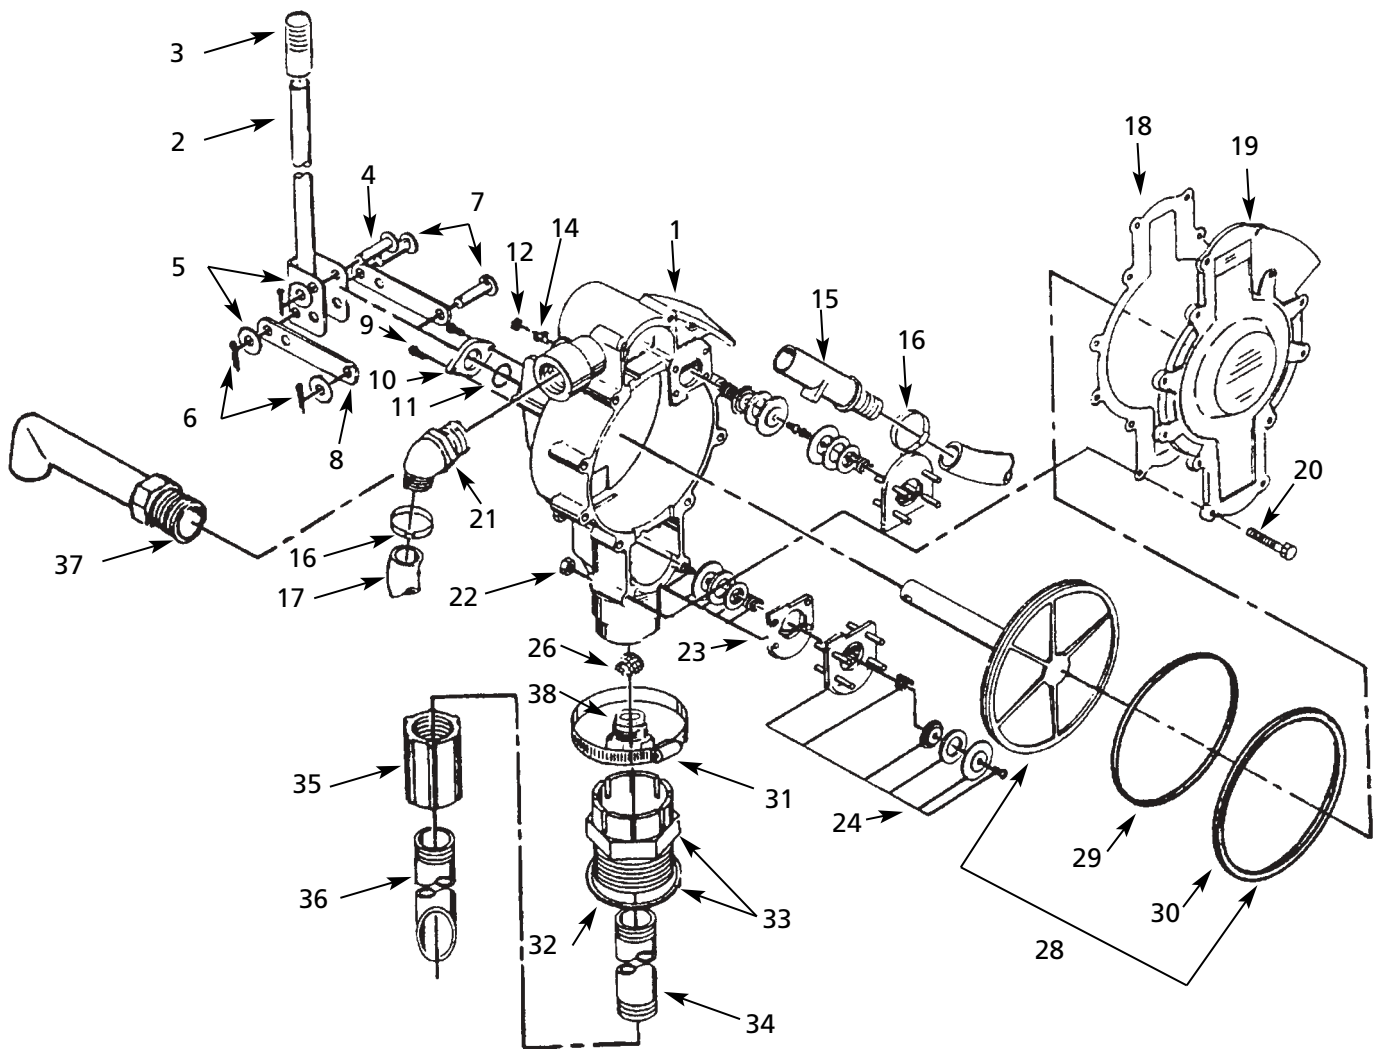

Figure 8 - Repair Parts Illustration
b. Loosen bung adapter clamp (Ref. No. 31, Figure 8).